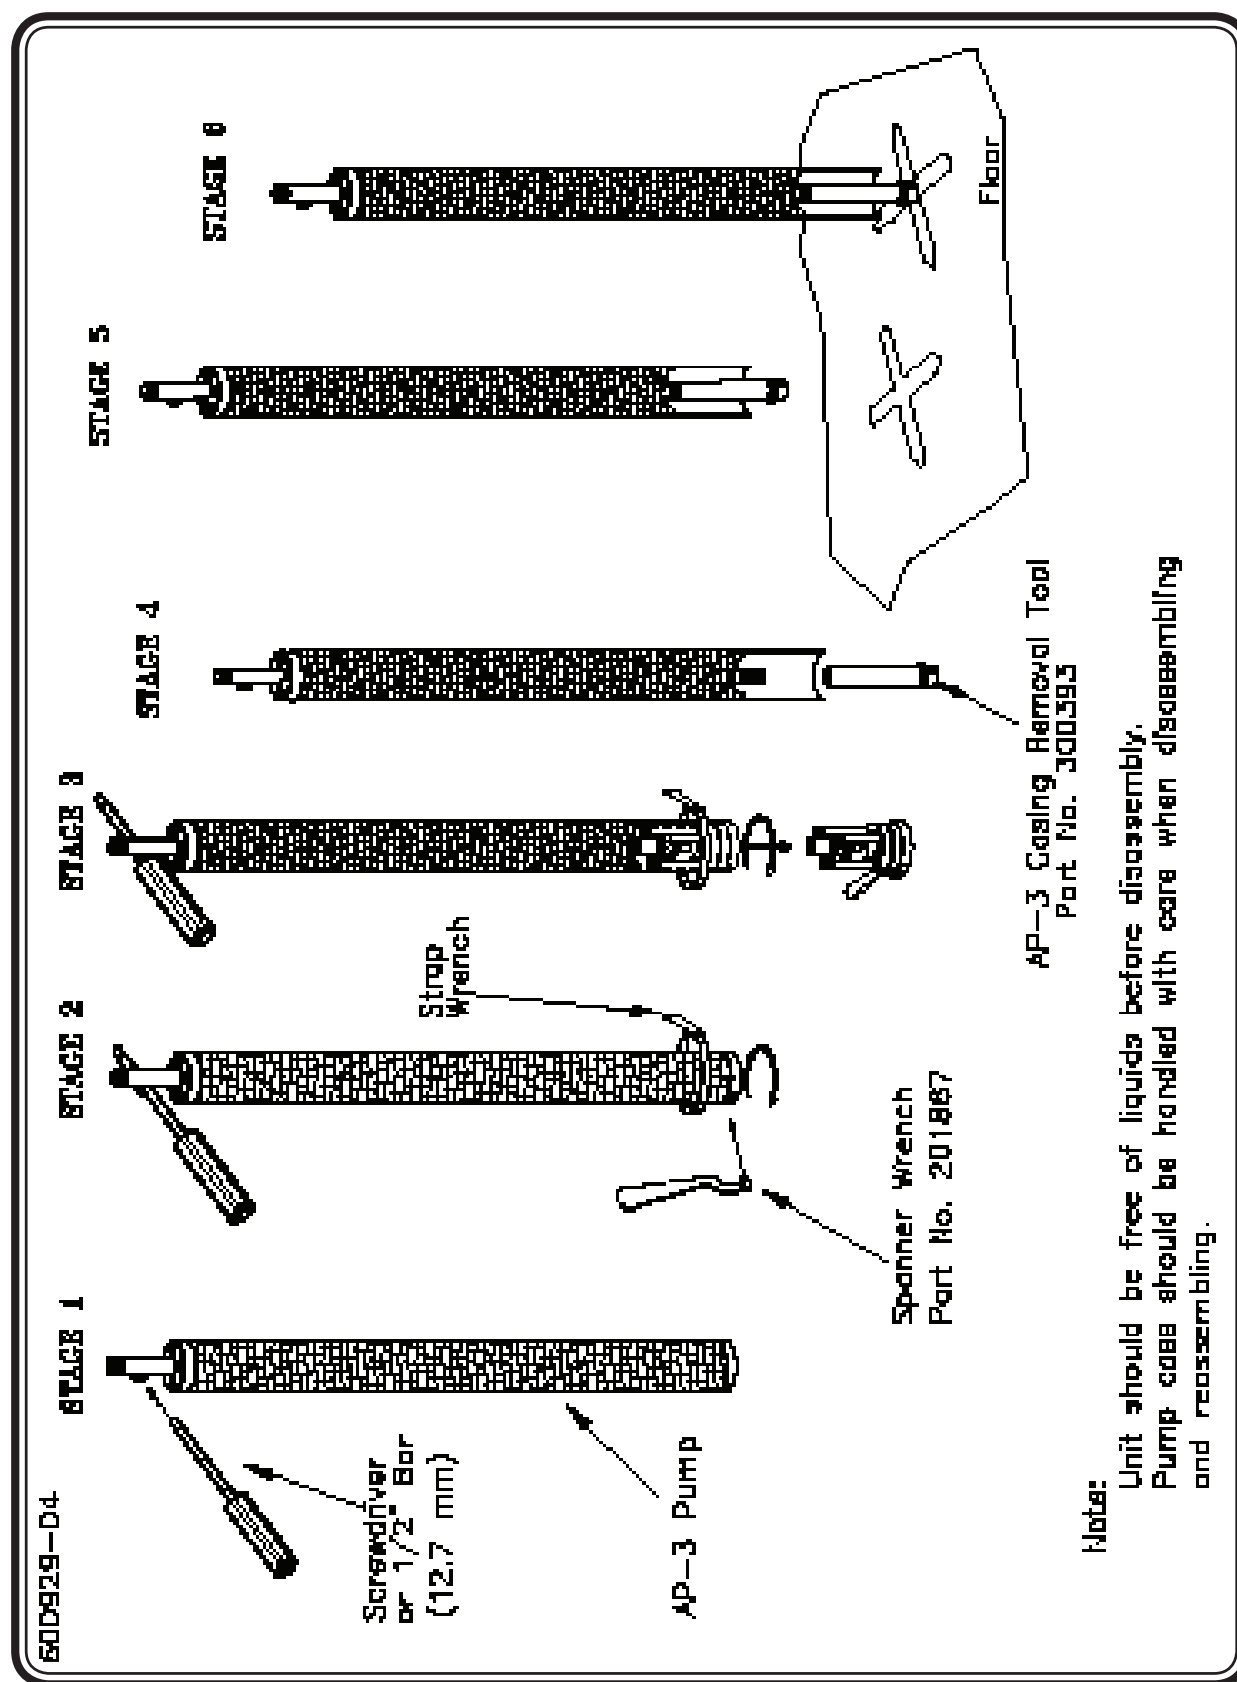

Figure 20 - Removing AP-3 Pump Casing
When assembling or disassembling the pump, do not rotate the casing. This action may cause the float and control rod to rotate with the casing. Instead of rotating the casing, spin the bottom check valve (or plug on a Top-Loading pump) and hold the casing stationary, **See Figure 20 Stage 3**.
Unscrew the bottom check valve or plug from the discharge tube. (**See Figure 20**)
STEP 1 - Hold the top head of the pump with a vise or by inserting a large screwdriver through the pump ring, **See Figure 20 Stage 1**.
STEP 2 - Fit a spanner wrench in one of the holes in the circumference of the lower head. The lower head has right-handed threads, so the direction of rotation for disassembly is counterclockwise if looking at the bottom of the pump, **See Figure 20 Stage 2..**
STEP 3 - Turn the plug or check valve, **See Figure 20 Stage 3**.
- STEP 6 -** When the plug or check valve is removed, use a pump casing removal tool to remove the pump casing. The pump casing removal tool is a specially threaded pipe with internal threads at one end and a cap at the other, **See Figure 20 Stage 4**, part No. 300393.
- STEP 7 -** Thread the tool onto the bottom of the discharge pipe (onto the same threads from which the lower head was unscrewed), **See Figure 20 Stage 5**.
- STEP 8 -** Hold the pump vertically upright with the pump casing removal tool extending down out of the pump casing, **See Figure 20 Stage 6**.
- STEP 9 -** Hold the pump by the casing and strike the pump casing removal tool on the ground. This will cause the pump casing to slide off the upper O-ring and will allow it to slide off the pump, **See Figure 20 Stage 6**.
- STEP 1 -** The bottom intake check valve assembly should be removed from the casing. (See page 47, and Figure 20 on page 48)